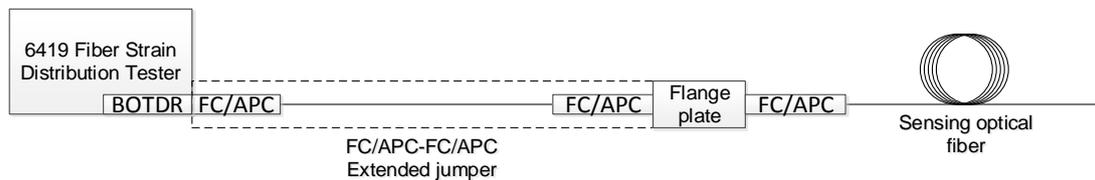

Figure E-1 Protecting 6419 optical port with the fiber extension cord
(4) If the fiber connector needs to be frequently pushed on to and pulled off from the BOTDR port, you are recommended to **use the FC/APC-FC/APC patch cord as the extension cord.** One end of the extension cord is connected to the BOTDR port while the other end is connected to the FC/APC connector of the sensing optical fiber via the flange, as shown in Figure E-1, to avoid damage to the optical port from frequent pushing on and pulling off the optical fiber connector, and even permanent damage. For details about how to use the FC/APC-FC/APC extension patch cord, see section 3 “Usage of FC/APC-FC/APC Extension patch cord” in Appendix D “Identification of FC/APC from FC/UPC and patch cord Connection.”